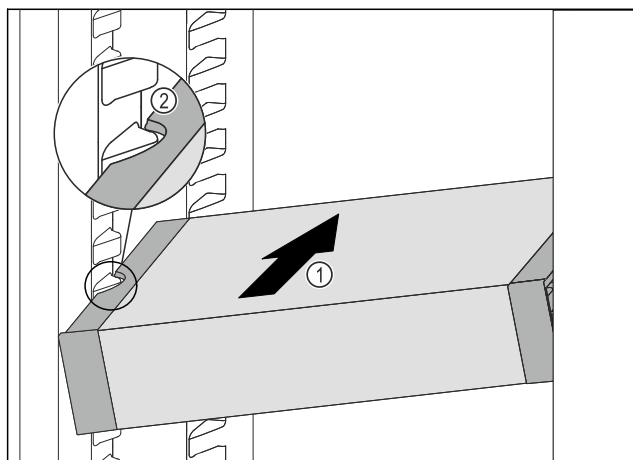

Fig. 98
- Insert the VarioSafe into the fridge section at an angle Fig. 98 (1) until the recesses in the side Fig. 98 (2) of the VarioSafe are at the level of the support rib in the fridge section.